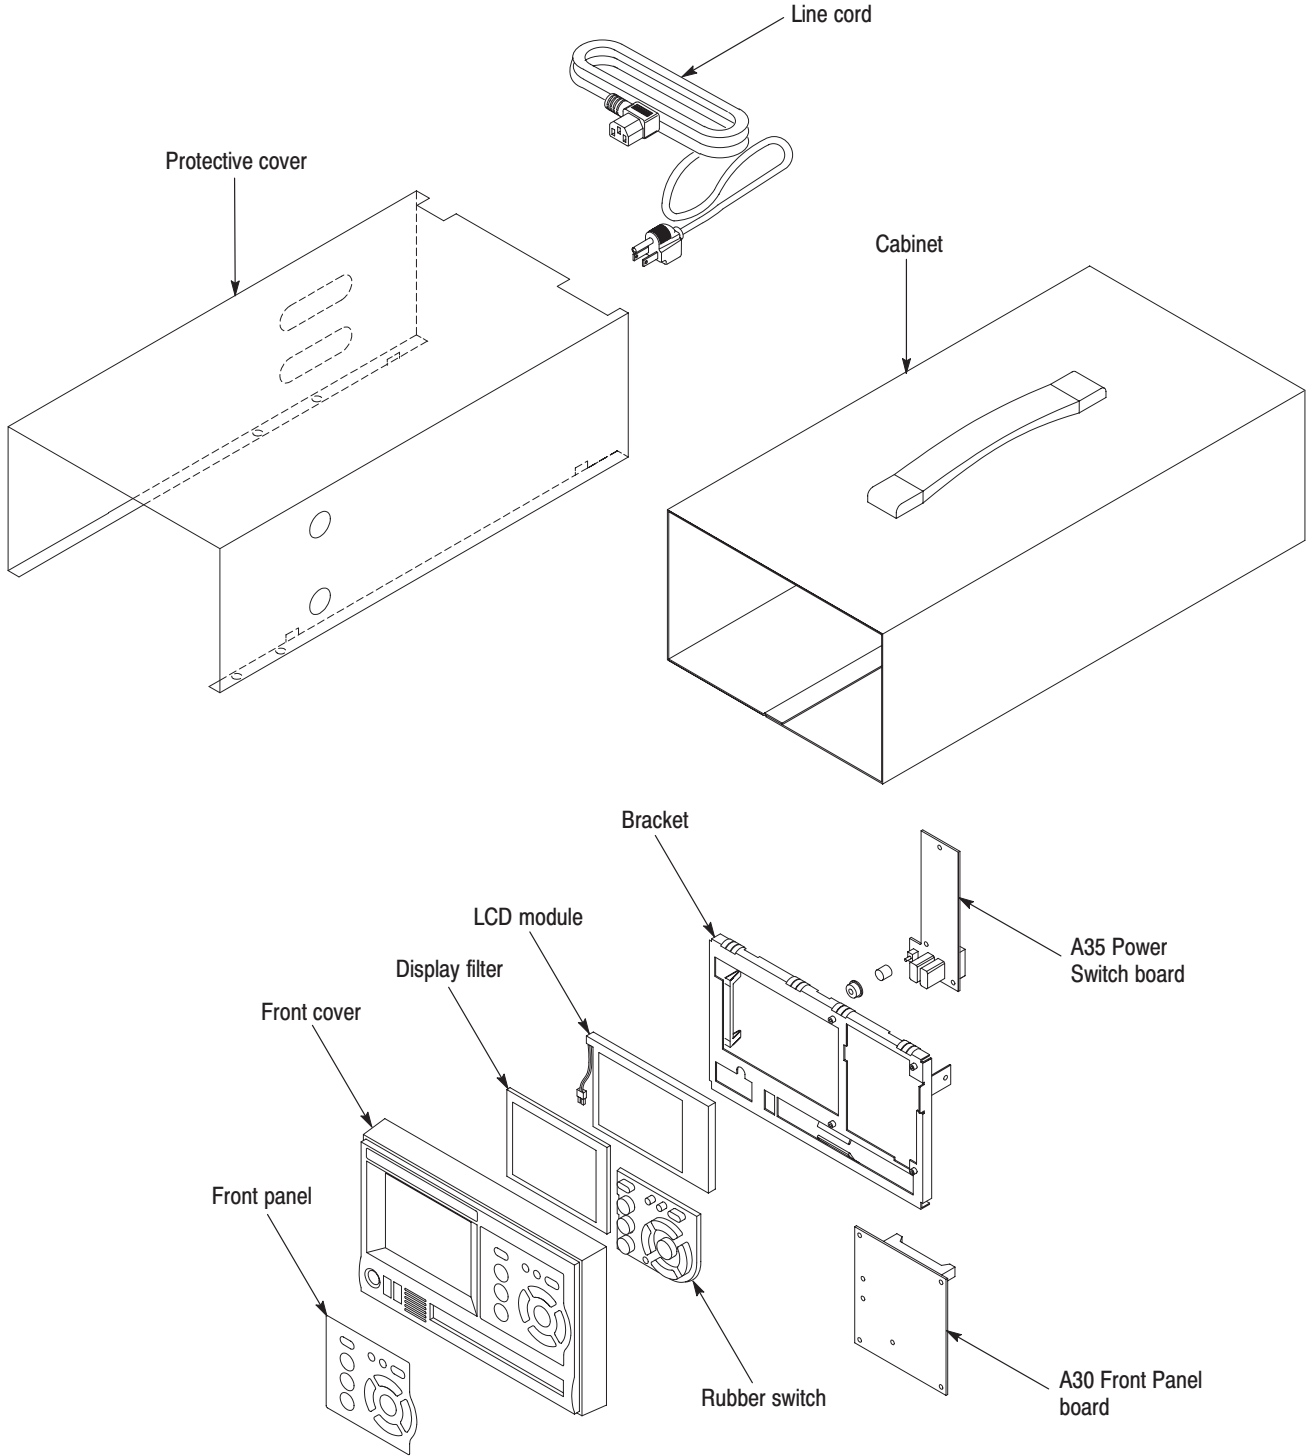
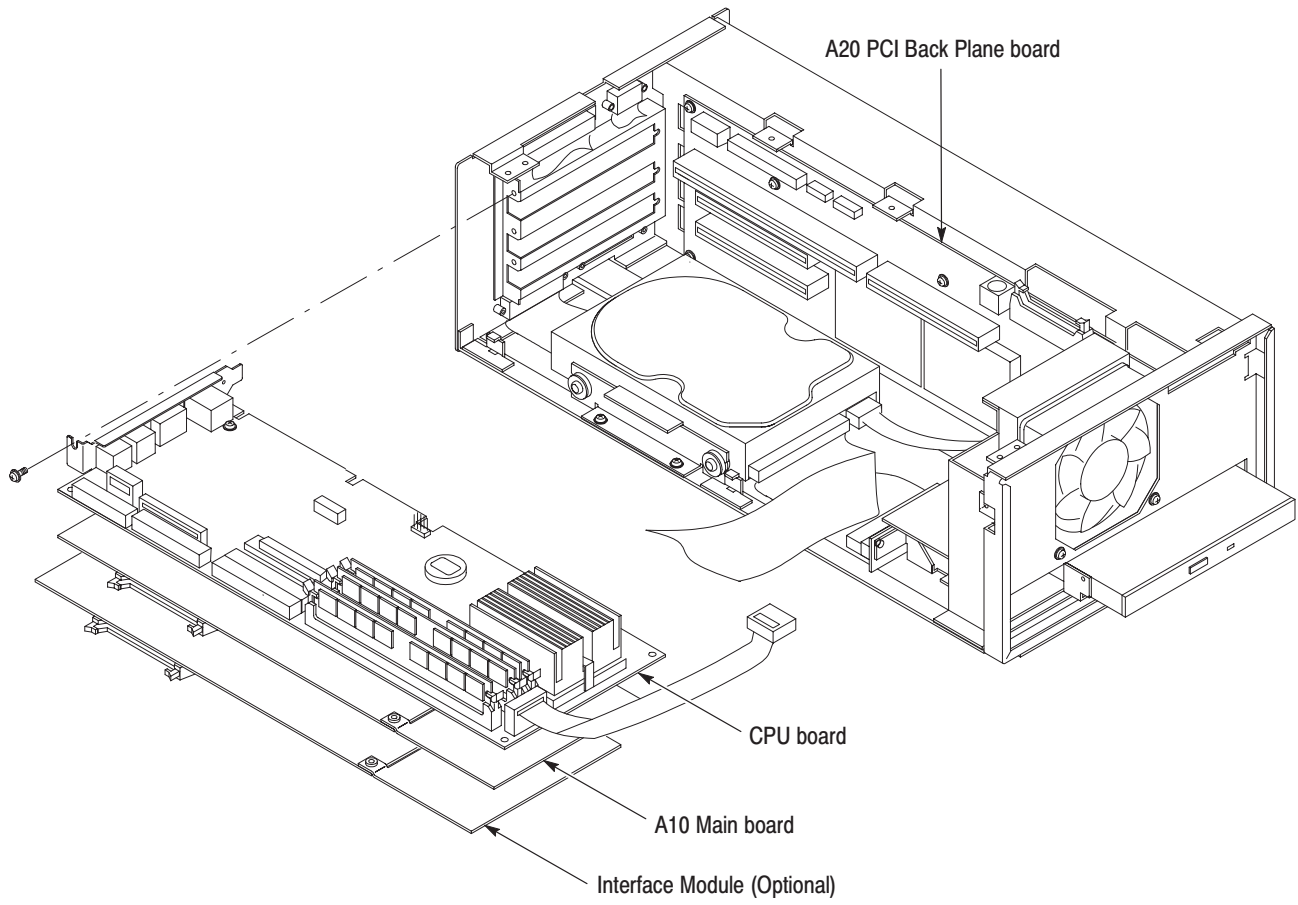
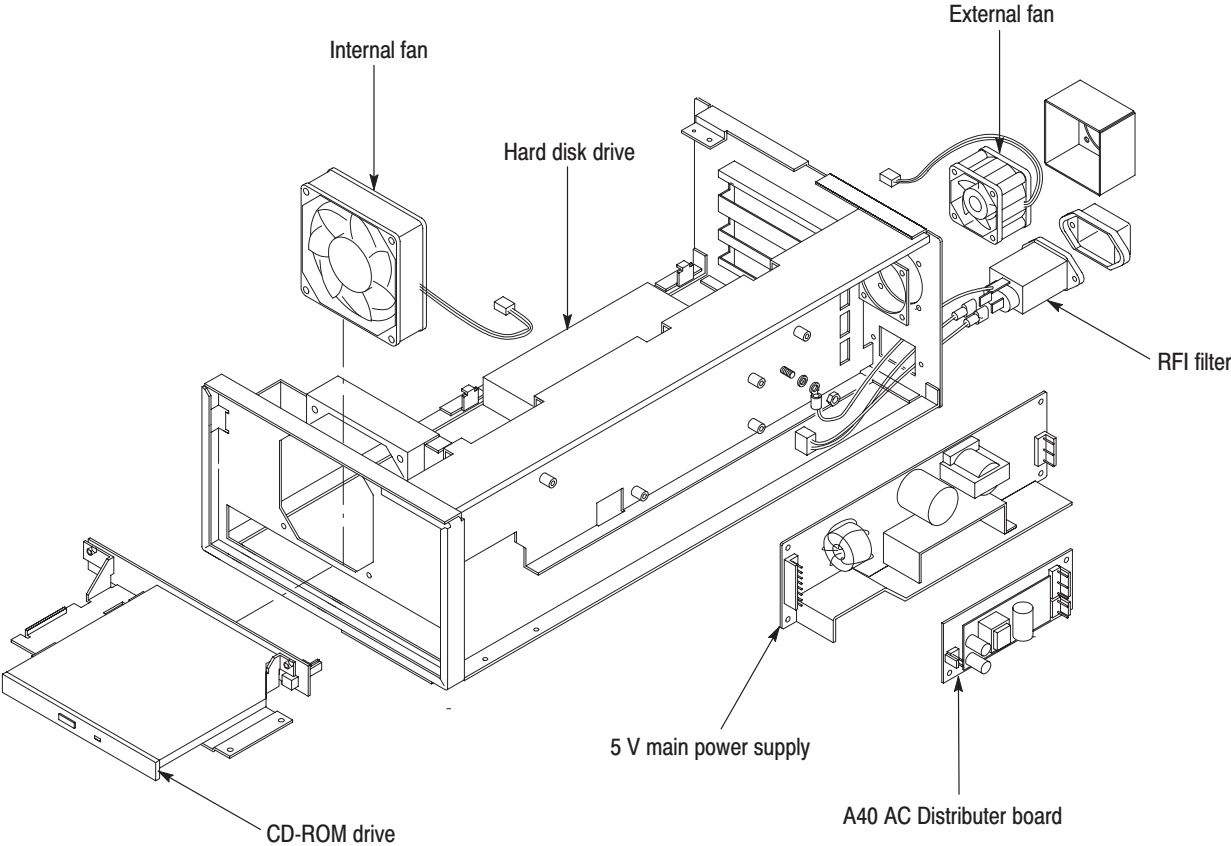
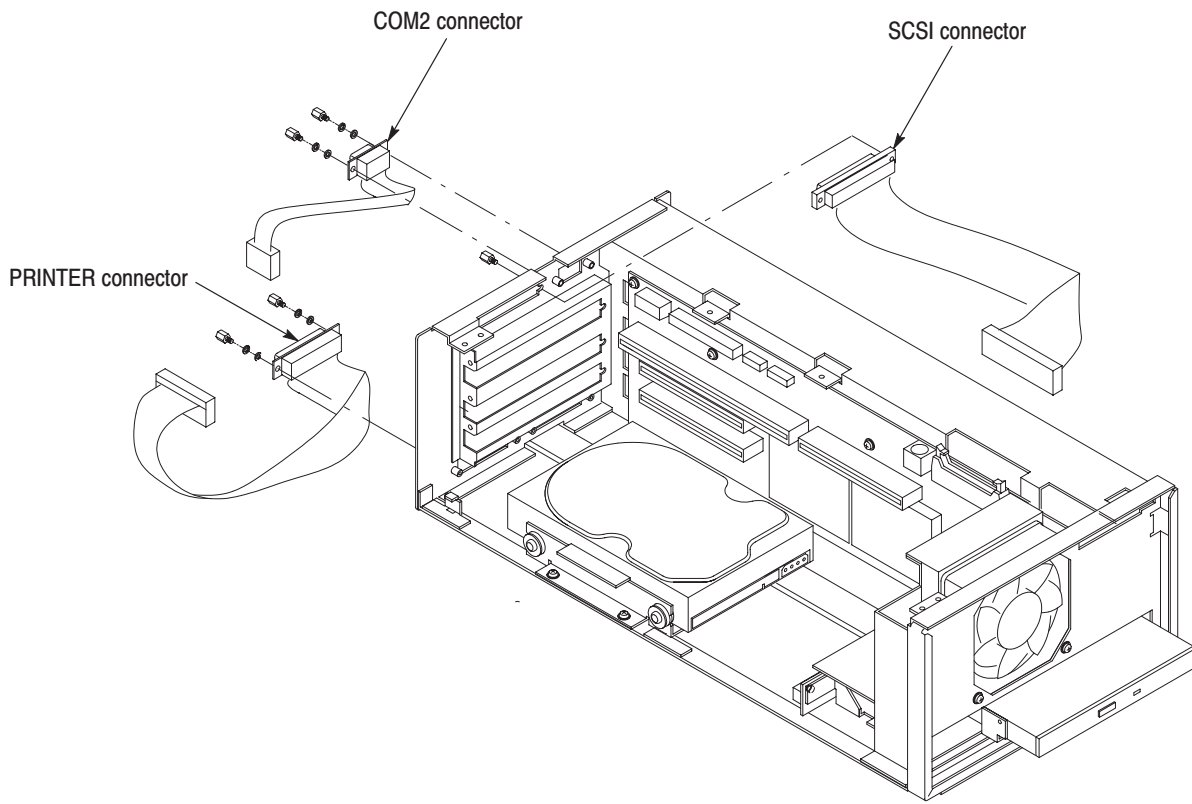

Figure 6-2: External modules
Figure 6-3: Board modules
Figure 6-4: Internal modules
Figure 6-5: Rear panel modules
- Four module locator diagrams for finding the External modules (see Figure 6-2, on page 6-13), Board modules (see Figure 6-3, on page 6-14), Internal modules (see Figure 6-4, on page 6-15), and Rear Panel modules (see Figure 6-5, on page 6-16) in the MTX100.
1. *Assemble equipment and locate modules to be removed:* You need no equipment. Locate the line cord in the location diagram *External modules*, Figure 6-2, page 6-13.
- b. Locate the modules to be removed in the locator diagram *External modules*, Figure 6-2, page 6-13.
- b. Locate the module to be removed in the locator diagram *External modules*, Figure 6-2, on page 6-13.
- b. Locate the board in the locator diagram *Board modules*, Figure 6-3, on page 6-14.